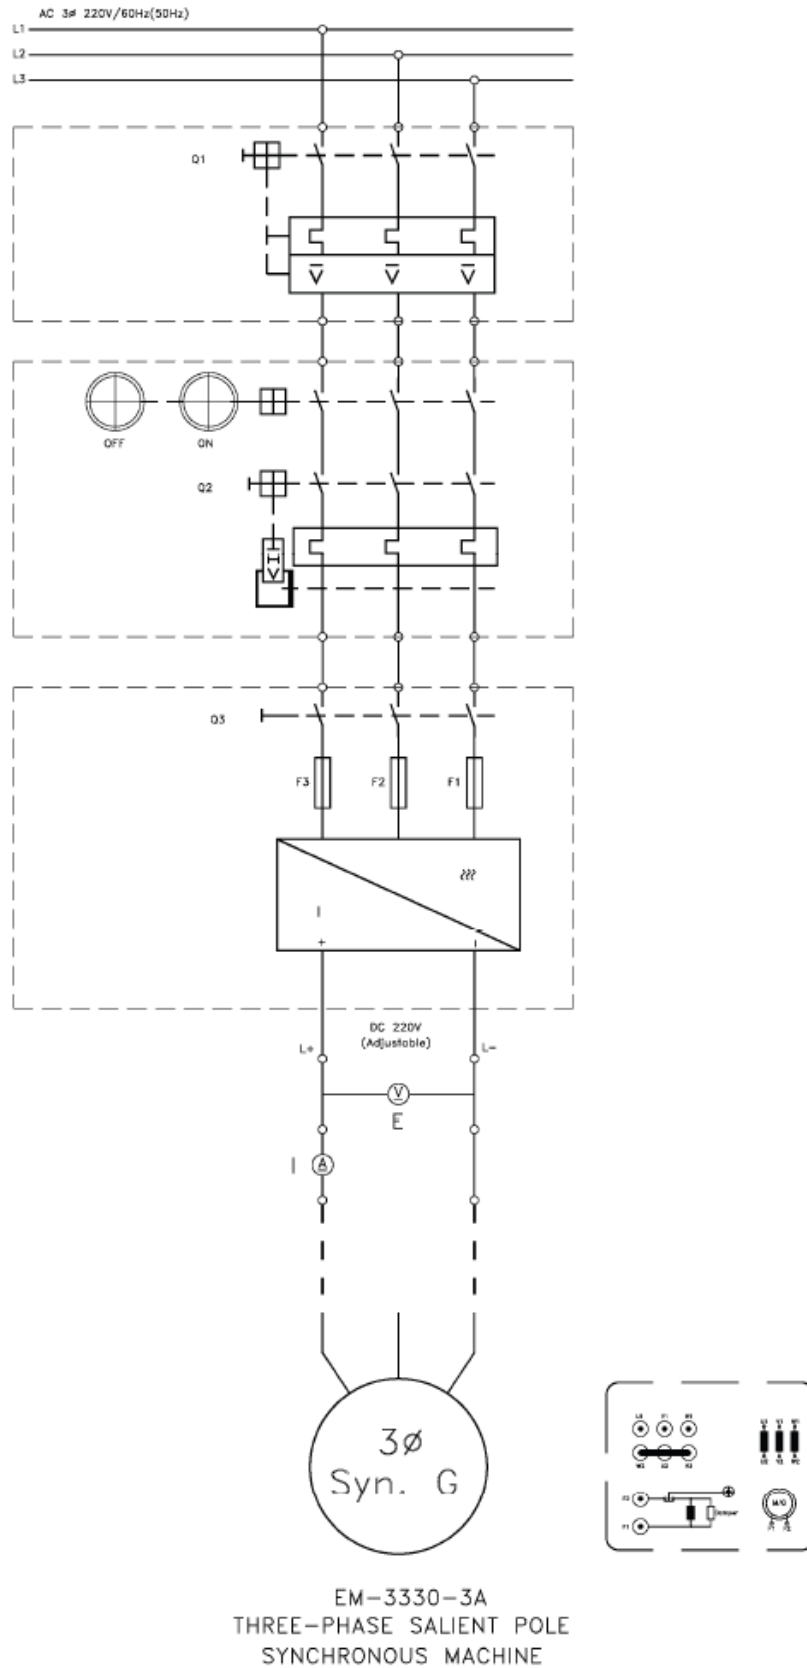
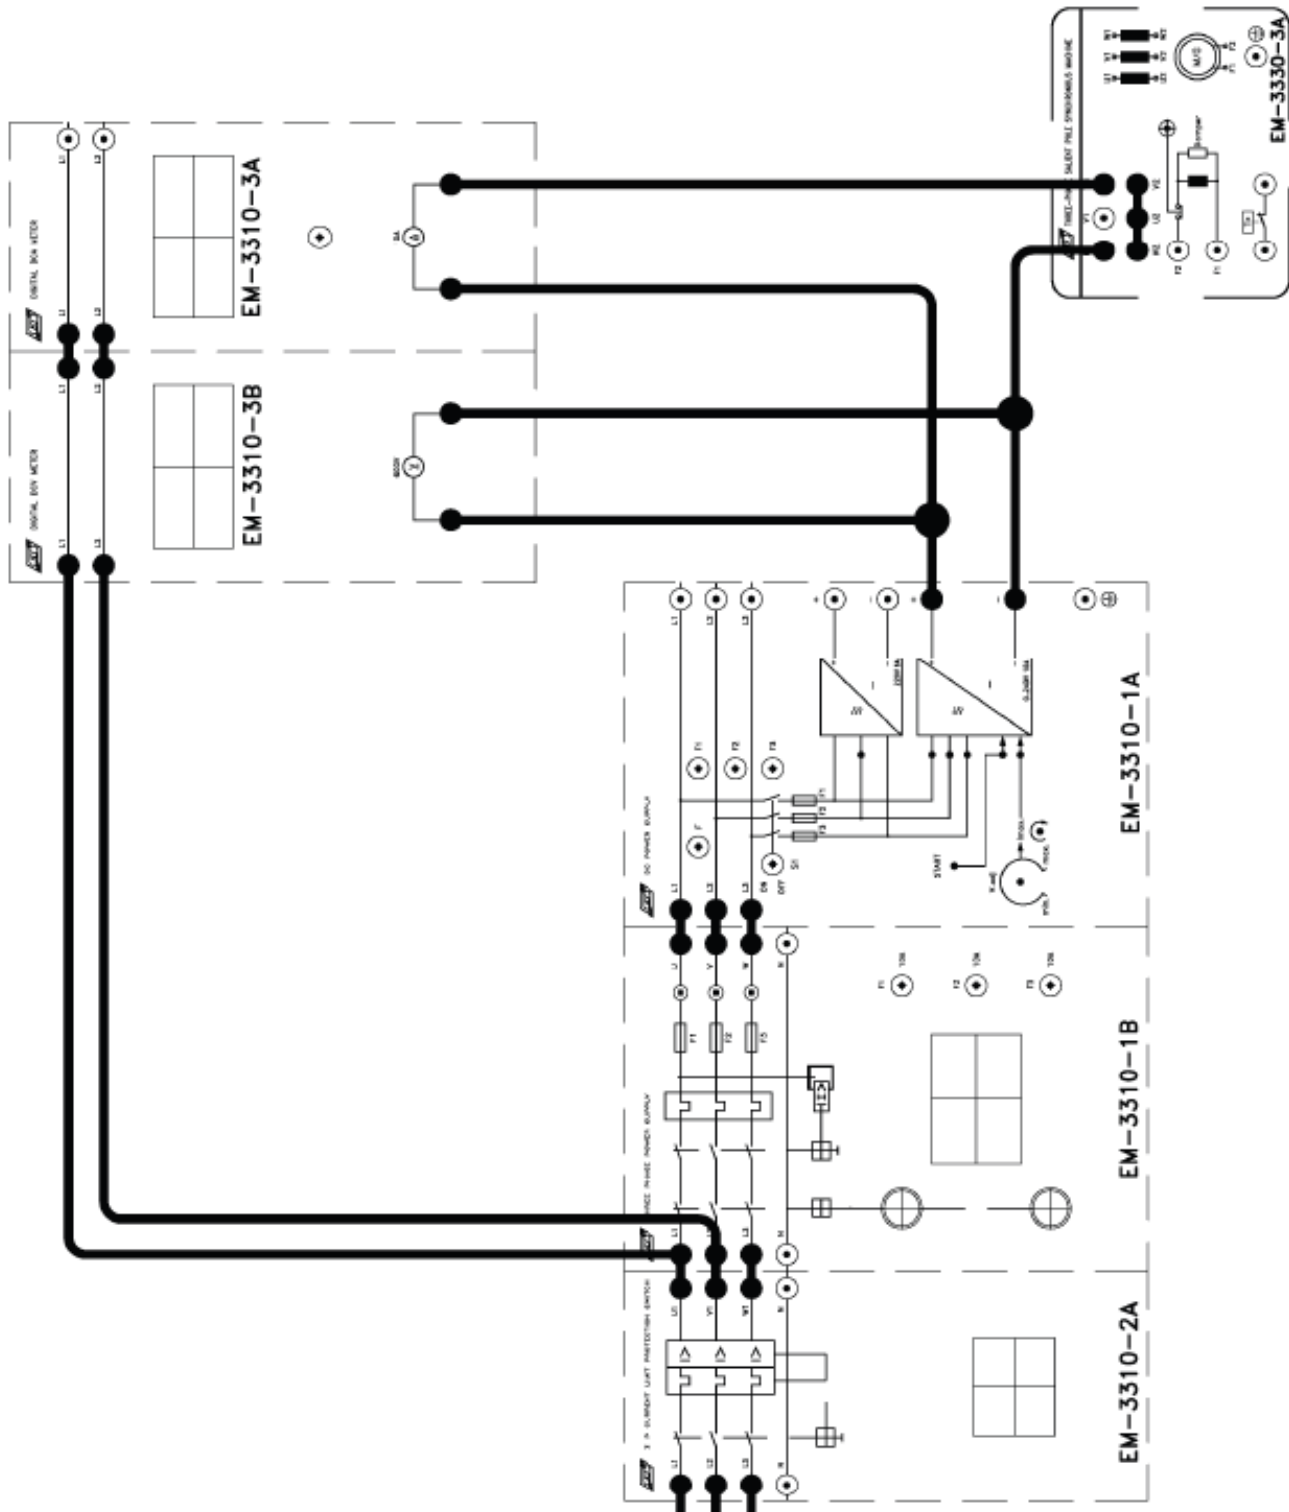

Fig. 15-1-1 Circuit diagram for armature resistance measurement
Fig. 15-1-2 Connection diagram for armature resistance measurement
1. Place the Three-phase Salient Pole Synchronous Machine on the Laboratory Table. Install the required Modules in the Experimental Frame. Construct the circuit in accordance with the circuit diagram in Fig. 15-1-1 and the connection diagram in Fig. 15-1-2. Have the instructor check your completed circuit. The synchronous generator operates in wye.